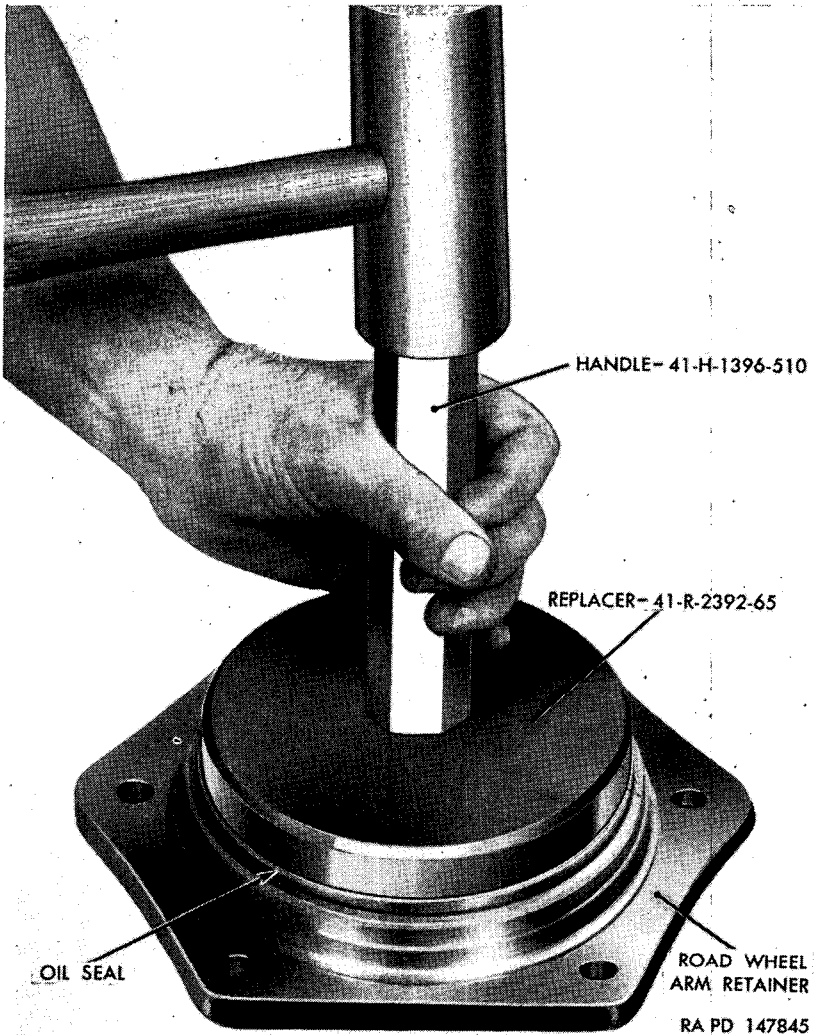

Figure 267. Installing road wheel arm spindle oil seal.
- (3) *Assembly and installation.* Install a new oil seal in the road wheel arm retainer and drive into position with replacer 41-R-2392-65 and handle 41-H-1396-510 (fig. 267). Pack the bearings with grease as specified on lubrication order (fig. 87) except nylon-type bearings (*Note* above). Position the arm retainer on the spindle (figs. 256 and 266). Install the outer bearing, bearing spacer, and inner bearing on the spindle.